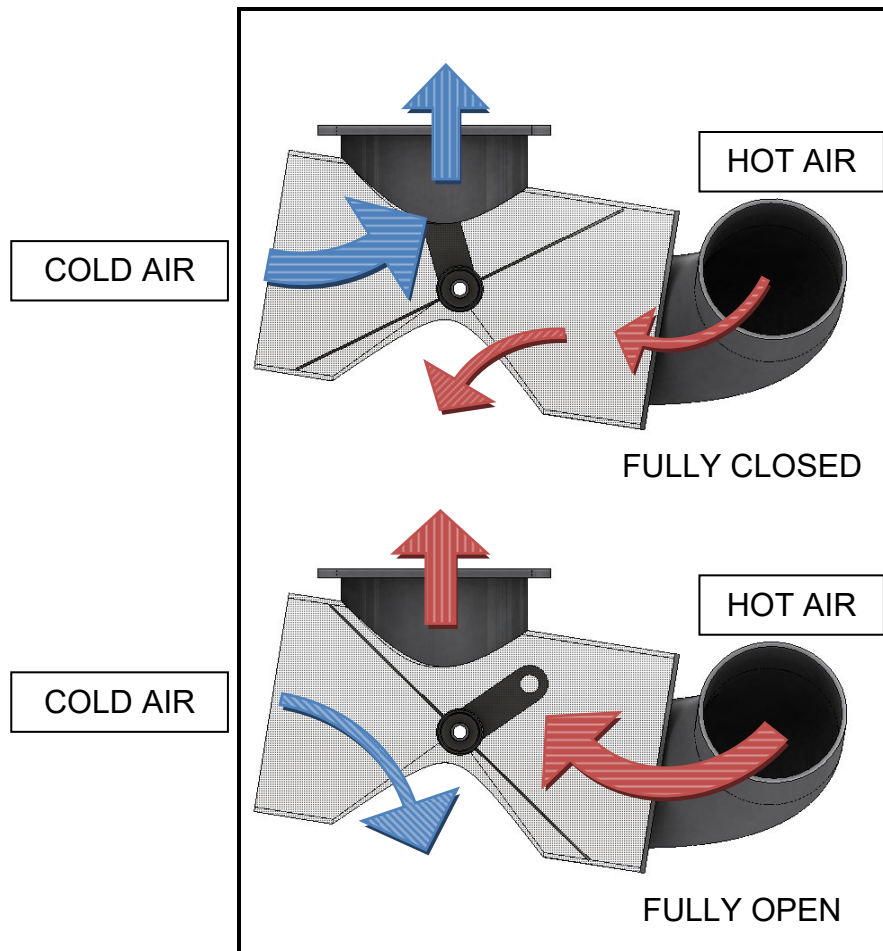

Figure 7 - Carburetor Heat Valve Range Of Motion
- ii. The cable must be able to rotate the butterfly valve until it stops against the opposite side of the intake tube. See Figure 7.